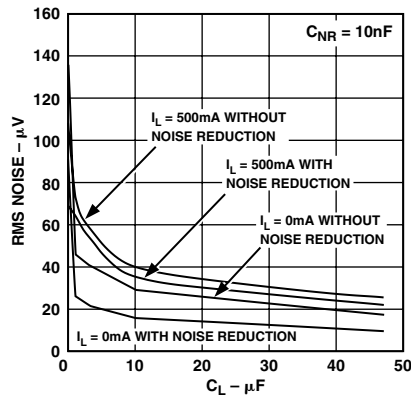

Figure 18. RMS Noise vs.  $C_L$  (10 Hz-100 kHz)
A noise reduction capacitor ( $C_{NR}$ ) can be used to further reduce the noise by 6 dB–10 dB (Figure 18) low leakage capacitors in 10 pF–500 pF range provide the best performance. Since the noise reduction pin (NR) is internally connected to a high impedance node, any connection to this node should be carefully done to avoid noise pickup from external sources. The pad connected to this pin should be as small as possible and long PC board traces are not recommended.